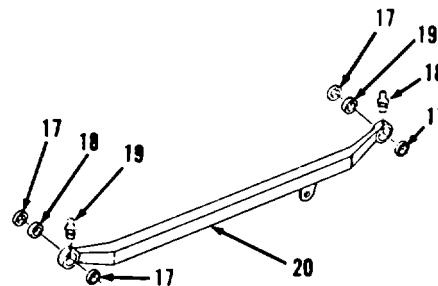

Figure 5-99.
18. Install two washers (23 and 22) and bolts (21).
19. Install two fittings (19) in bar (20, Figure 5-99).
20. Using assembled washer, puller assembly, pump group, screw, nut and adapter, install two bearings (18).
21. Install four seals (17) with lips toward the outside and even with the outside surface of bar (20).